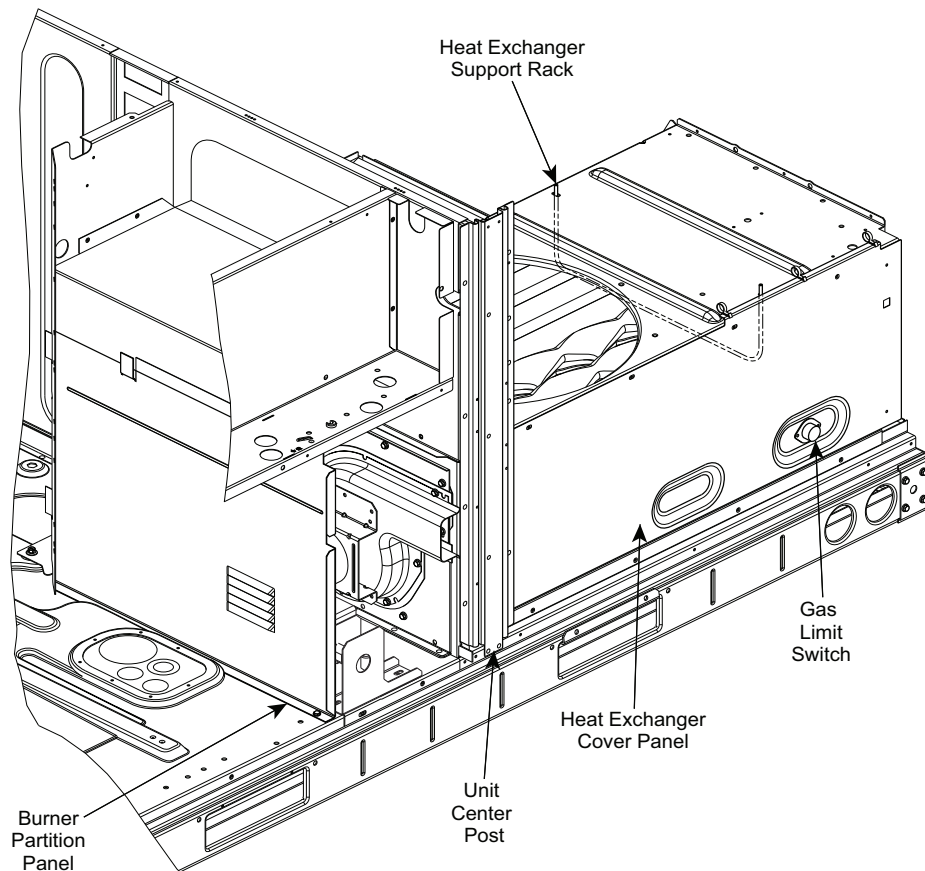

Fig. 56 — Heat Exchanger Access — Internal Panels, Center Post and HX Rack Locations
1. Remove the screw at the base of the burner partition panel (see Fig. 56) and slide out the panel.
5. Remove the screw at the base of the burner partition panel (see Fig. 56) and slide out the panel.
3. Remove the unit center post (see Fig. 56).
Remove the indoor blower access panel. Limit switch is located on the heat exchanger cover panel. See Fig. 56.